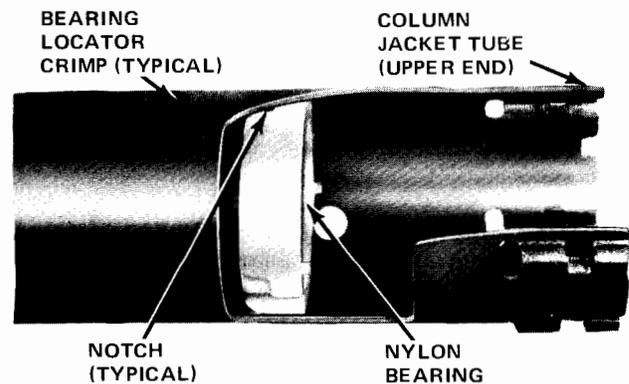

Fig. 11-33 Lower Bowl Bearing
(27) Remove shift bowl from column.
(28) Remove nylon lower bowl bearing from upper end of jacket tube (fig. 11-33).
NOTE: Bearing must be installed with smaller inside diameter toward lower end of jacket, and bearing notches must engage three locator crimps in column (fig. 11-33).